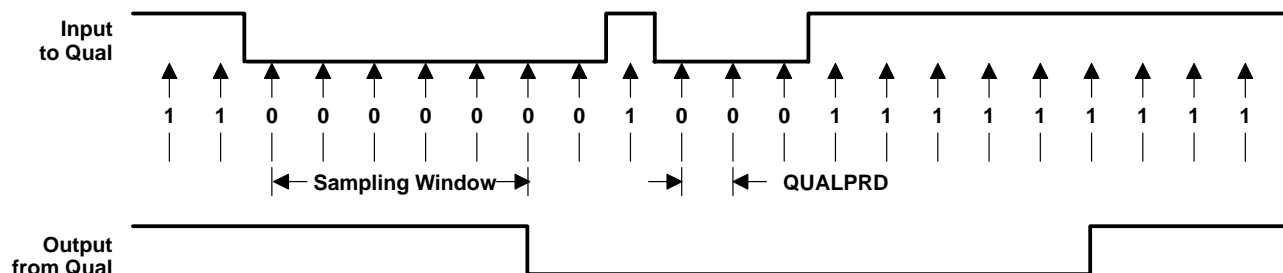

Figure 22. I/P Qualifier Clock Cycles
2. Some selected input signals are, qualified by the QUALxCLK, which is a prescaled version of the high-speed peripheral clock (HSPCLK). The GPxQUAL register specifies the qualification sampling period. The sampling window is 6 samples wide and the output is only changed when all samples are the same (all 0's or all 1's) as shown in Figure 22. This feature removes unwanted spikes from the input signal.